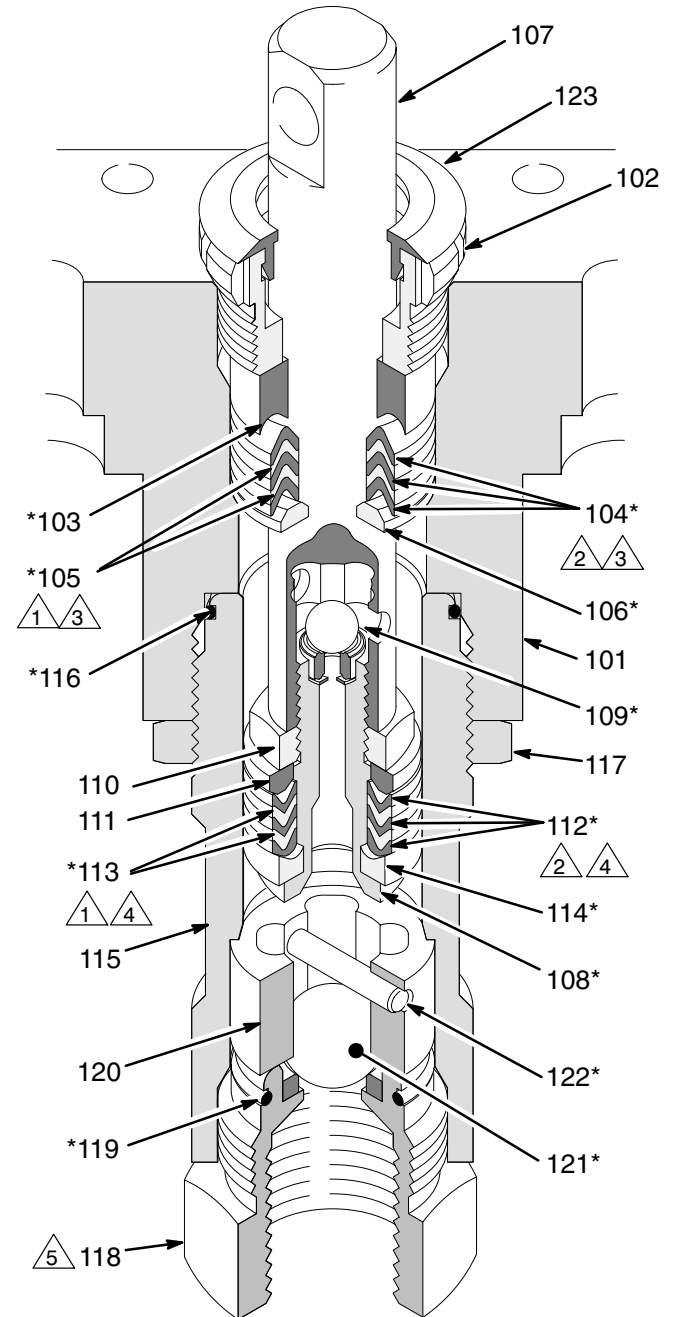

Fig. 23
- Stack these parts one at a time into the top of the manifold (101): the male gland (106*), alternately three plastic packings (104*) with two leather packings (105*), and then the female gland (103*). See Fig. 23.
- Install the packing nut (102) and plug (124), but leave loose for now. See Fig. 23.
14. Place the ball guide (120), stop pin (122) and ball (121*) in the cylinder (115). Screw the intake valve (116) into the cylinder and torque to 53 ft-lb (71 N.m). This will also properly torque the cylinder into the manifold. See Fig. 23.